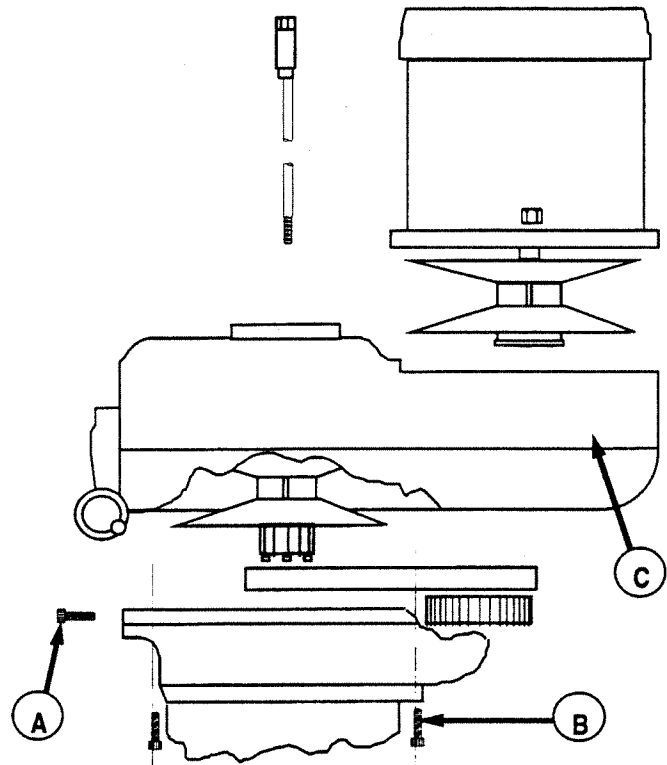

Figure 9-3. Timing Belt Replacement
9.3 TIMING BELT REPLACEMENT (Figure 9-3)